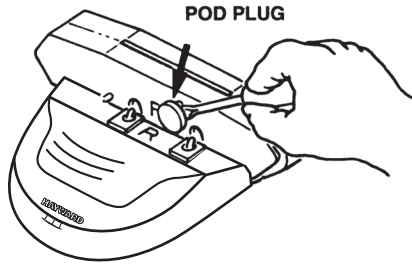

Figure 9
- 1. Check the condition of the “shoes, wings and flaps” periodically.** The shoes and wings have wear indicators on their sides and should be checked occasionally to determine if they need replacing. The shoe wear indicator is a line on the side of the shoe that appears as a difference in texture. When this texture difference is no longer visible at the bottom of the shoe when viewed from either side, the shoes must be changed (*see Figure 8*). Also on the side, the wing wear indicator is a horizontal line which has three (3) vertical lines above it. When you can no longer see the horizontal line, the wings must be changed (*see Figure 9*). The Hayward Tune-Up Kit is available from your dealer. Shoes, wings and flaps may also be purchased separately.
- a) Using a screwdriver, remove the plugs from both pods (see Figure 9).